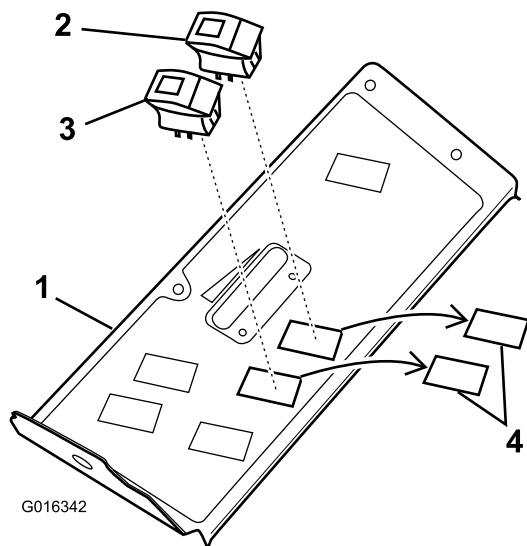

Figure 2
2. Locate and remove the 2 knockout plugs located closest to the front of the machine under the decal (Figure 2).
3. Insert the master lights switch and the hazard warning switch as shown in Figure 2.